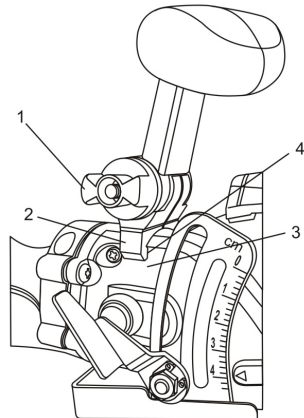

Fig. 7
1. Turn the locking knob (1) counterclockwise to open the clamping jaws (2) (Fig. 7).
2. Slide the opened clamping jaws over the aluminum gear housing (3) until the clamping jaws engage with the mounting cavities (4).